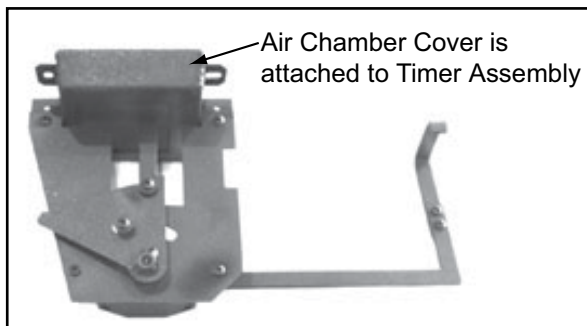

Figure 36.3 Timer Assembly with Air Chamber Cover (Linkage arm is not included in the kit)
**NOTE:** The timer assembly included in this kit comes with the air chamber cover attached. Figure 36.3.